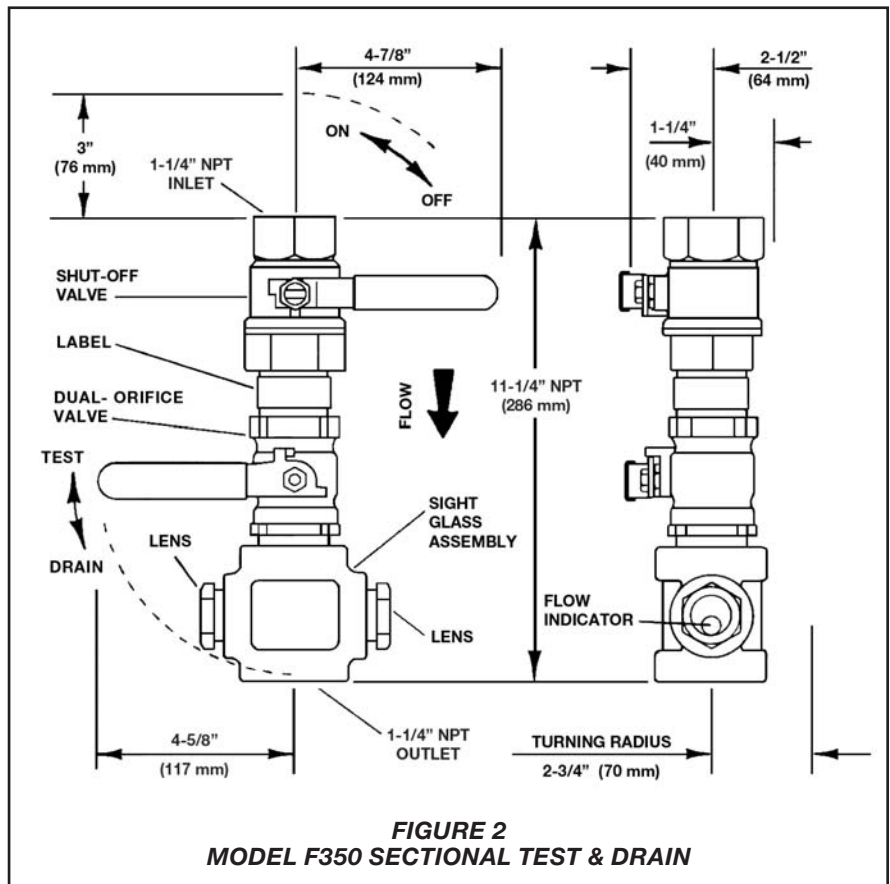

FIGURE 2
The Model F350 Sectional Test & Drain (Ref. Figure 2) with an integral sight glass assembly, provides a simplified means for testing of waterflow alarm devices and draining of feed mains. It is typically utilized for connection to a common inside drain where it is not practical to terminate an inspector's test connection outside of a building. The F350 has a smooth bore corrosion resistant test orifice equivalent to that of a 5.6K (80K) orifice sprinkler, and it is provided with 1-1/4 inch NPT pipe size connections that make it suitable for use as a sectional drain connection with up to a 3-1/2 inch (DN80) size feed main. Additional features of the F350 include:
Step 2. The F350 may be installed in any position; however, the arrow on the Label must point in the direction of flow (towards drain) and there must be no restriction to the full movement of the valve handles (Ref. Figure 2).